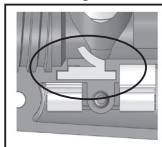

Figure 7: Ball Latch properly installed into the right receiver half.
5. Lay the marker with the right side on the workbench. Use the included Allen wrench to turn the **Velocity Screw** (51) all the way in. Separate the **Receiver Halves** (1 and 2) by first removing three (longer) **Screws** (25), and then four (shorter) **Screws** (26) and finally one **Bolt** (19). Retain eight **Nuts** (15) for these fasteners from the Right Receiver Half. Carefully lift the Left-Receiver Half to access the internal parts.
6. If the **Ball Latch** (8) needs to be replaced, pry the old one out of the Right Receiver Half. Put the new Ball Latch into the Right Receiver Half, oriented as shown in Figure 7 (circled item).
7. Remove the **Screw** (23) from the **ASA** (29). Slide the ASA from the pin in the Right Receiver Half. Be sure to keep track of the **Nut** (30). If necessary, you can unthread the ASA from the **Gas Line** (21). Use Teflon tape on threads for assembly.